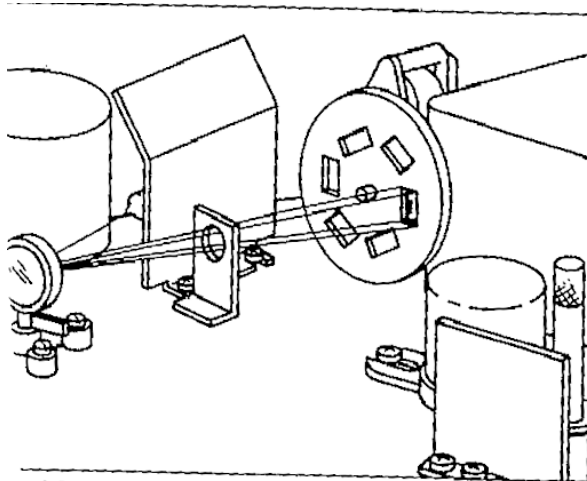

Figure 6-3a. Correct
- 12.4. Examine the illuminated filter on the filter wheel to determine the position of the light. Light should be centered on the filter and on the slit, as shown in Figure 6-3a.